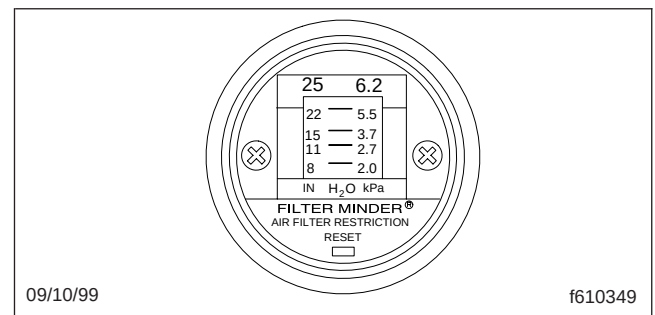

Fig. 2, Intake Air Restriction Indicator Mounted in the Cab
3. Remove the electrical connector from the indicator. See Fig. 2.